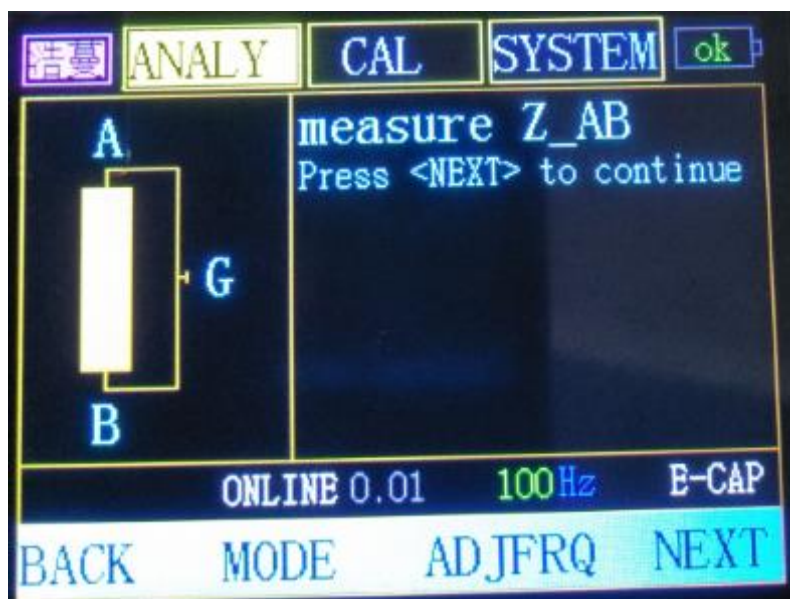

Figure 4-1 ONLINE
1. The circuit under test and its surrounding circuit can be equivalent to the ABG circuit shown in "Figure 4-1" (AG or BG segment has no branch, and should be as long as possible).
(1) Do open and short circuit calibration.
(2) In options, select the previous open / short circuit data.
(3) Switch to "Figure 4-1" page. (select "electrolysis" on the main test page, frequency 100Hz)